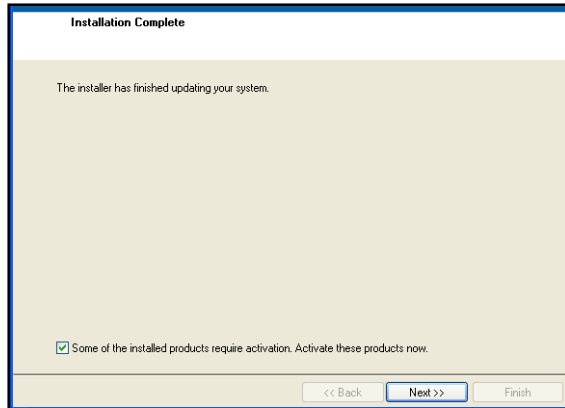

Figure 5. Installation complete.
7. Click *NEXT* after the installation is complete to continue (Fig. 5).